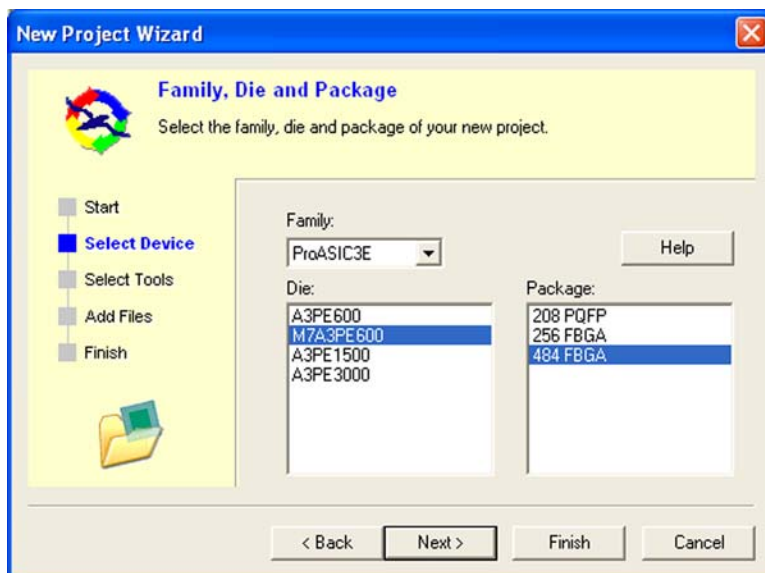

Figure 5-16. Select ProASIC3E, M7A3PE600, and 484 FBGA
6. Select your project **Family**, **Die**, and **Package**. For this tutorial, select **ProASIC3E**, the **M7A3PE600** die, and **484 FBGA** for the package (Figure 5-16).